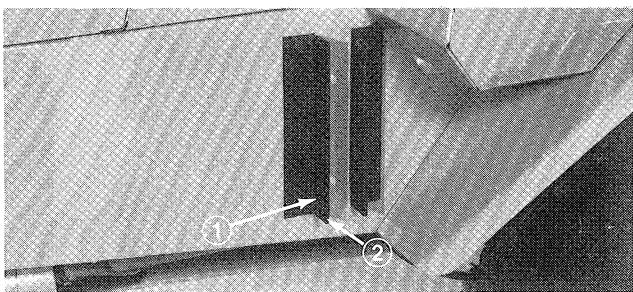

Figure 2
2. Mark and drill (8) 13/32" dia. holes at locations shown on template.
3. Positioning brackets as shown in Fig. 2, and using appropriate bracket holes, mount brackets to frame with (1) 3/8-16x2" lg. capscrew, (7) 3/8-16x1 1/4" lg. capscrews, (8) 5/16 washers, and (8) locknuts. Use 2" lg. capscrew to secure bottom of rear bracket.